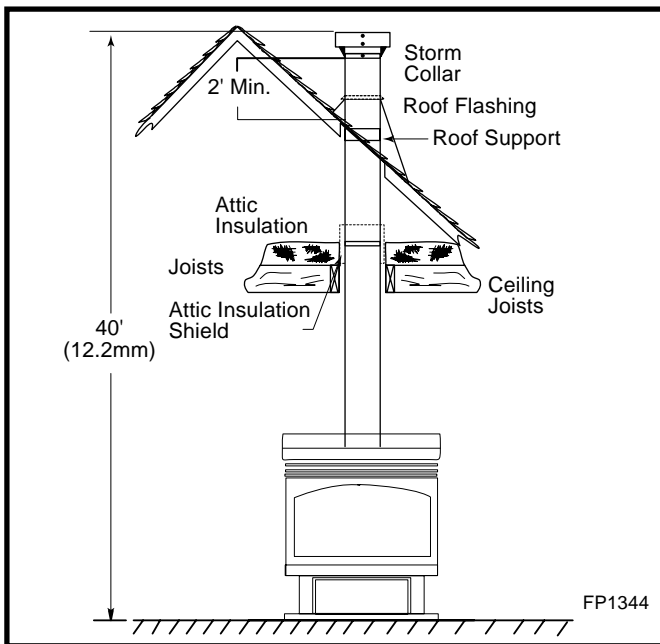

Fig. 26 Typical straight up installation.
- **The minimum height of the vent above the highest point of penetration through the roof is 2 feet. (Fig. 26)**
10. Add additional vent lengths for proper height. (Fig. 26)